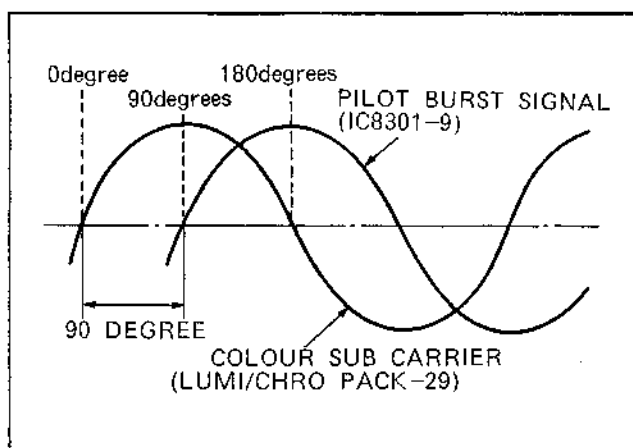

FIG. E9
3. Connect the oscilloscope to luminance/chrominance pack-(29) for CH-1 and IC8301-9 for CH2.
4. Adjust C8301 so that the pilot burst signal is placed in 90degrees against the Input Colour Sub carrier as shown in FIG. E9.